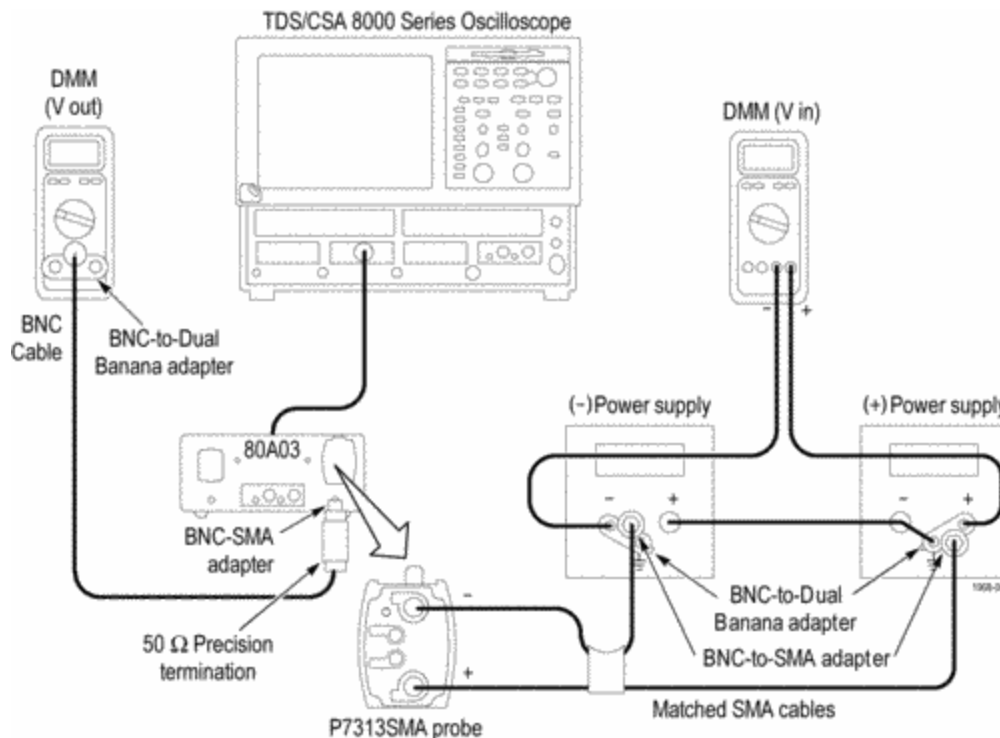

Figure 28: DC Gain Accuracy setup
2. Connect the probe to the power supplies as shown. (See Figure 28.) Make sure the ground tabs on the BNC-to-dual banana plug adapters are connected to the ground connections on the power supplies. Monitor the source voltage with one of the DMMs.